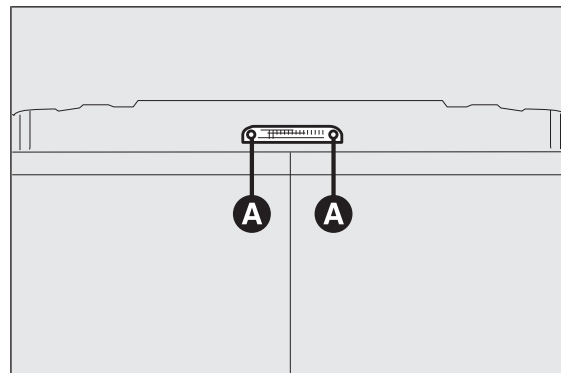

fig. 204
- ☐ undo the two fixing screws fig. 204;